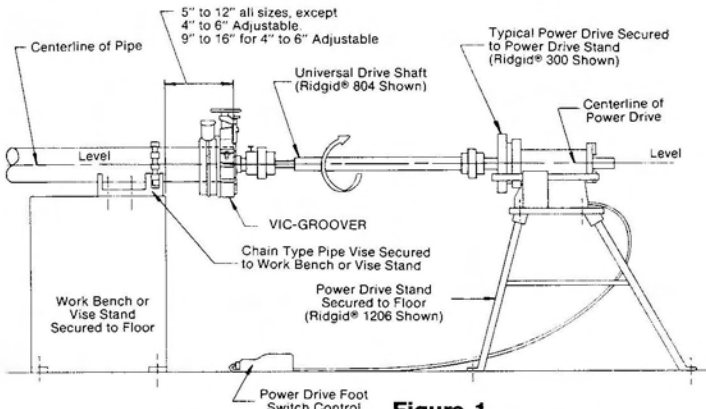

Figure 1
1. Position the Power Drive far enough away from the pipe so that the universal shaft will fit properly between the Power Drive and tool. See Figures 1 and 2. Position of power drive must allow universal shaft to operate freely without binding at the universal joints. Consult manufacturer's instructions before using shaft.